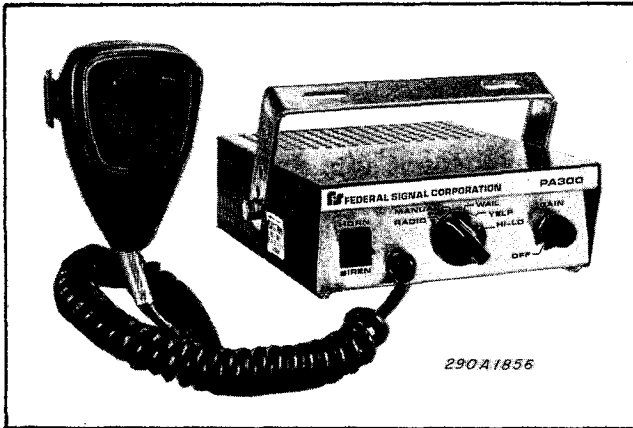

Figure 1-1. Model PA300 Electronic Siren.
The Federal Model PA 300 (figure 1-1) is a precision built, efficient and economical, full-featured electronic siren of advanced design. It provides wail, yelp and hi-lo siren tones, as well as the Tap II feature, public address (PA), radio rebroadcast and an air horn sound.